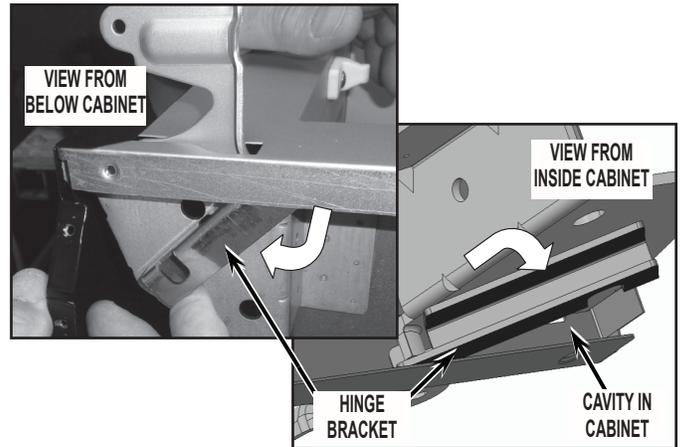

FIGURE 9
- Rotate hinge bracket so that it seats into the cavity in the cabinet, below the lower hinge. See *Figure 9*.